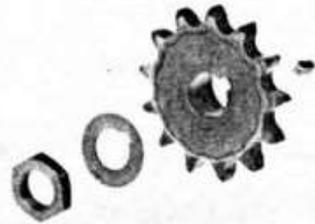

Fig. 138
Usare sempre una rondella di sicurezza **nuova** (fig. 138).
- Before refitting gearbox sprocket, carefully check sprocket, woodruff key and keyway for damage or wear. Always **renew** the tab locking washer (fig. 138).